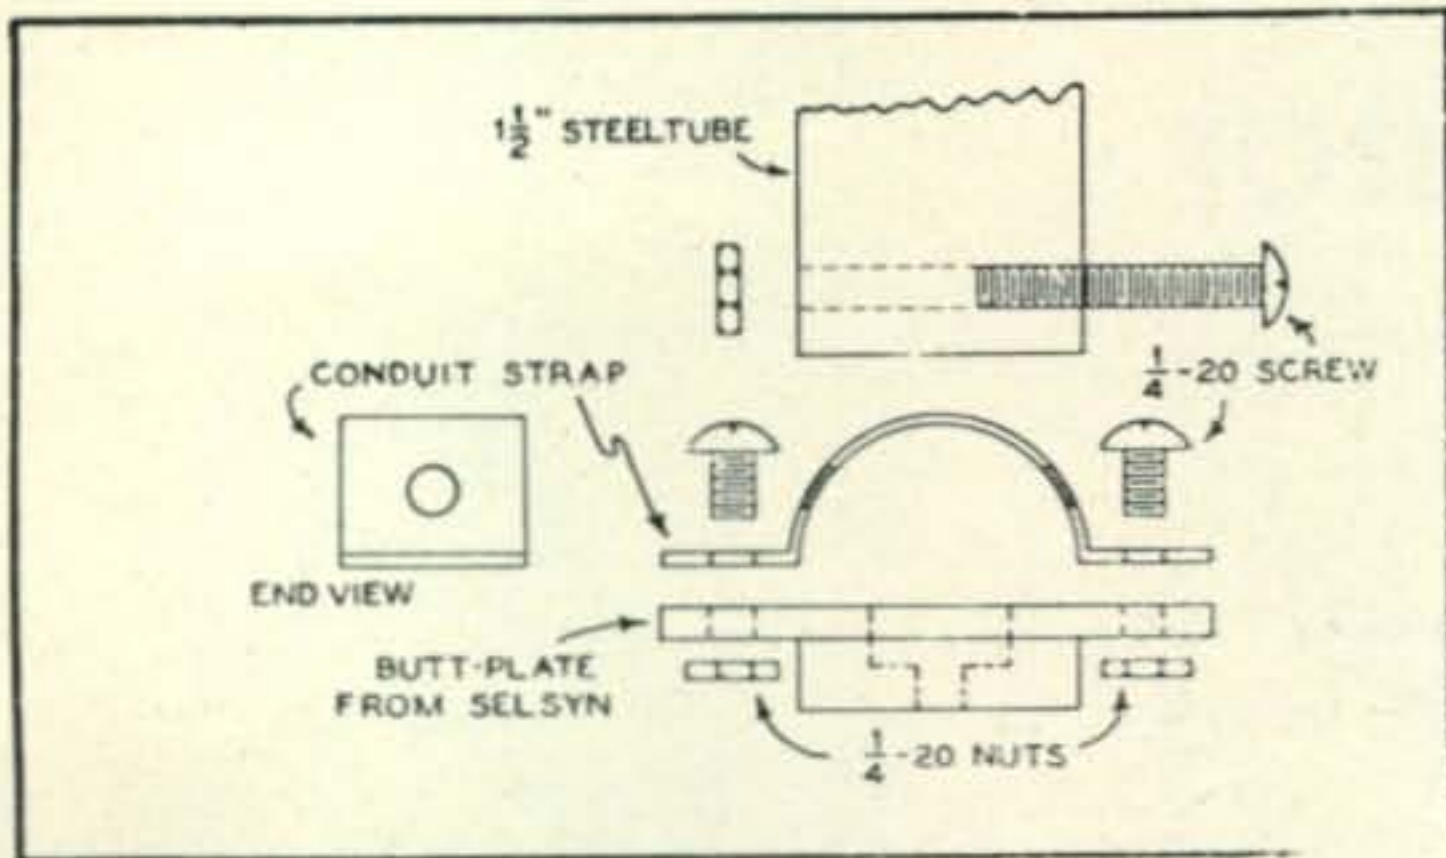

Fig. 2. To hold the base of the steeltube in place a fitting is designed from the butt plate of the Selsyn and a $\frac{1}{2}$ " conduit strap.
A. Inspect and check all of the power supply wiring for correctness and to make sure that it corresponds to Fig. 2 and to the wiring procedure.
nuts. As shown in Fig. 2 make a $\frac{1}{4}$ " drill hole straight through the two sides of the conduit strap—that is, through the sides of the "U." This portion of the strap is then forced inside of $1\frac{1}{2}$ " steel tube which is used to support the beam antenna. Two appropriate holes are drilled through the steel tube